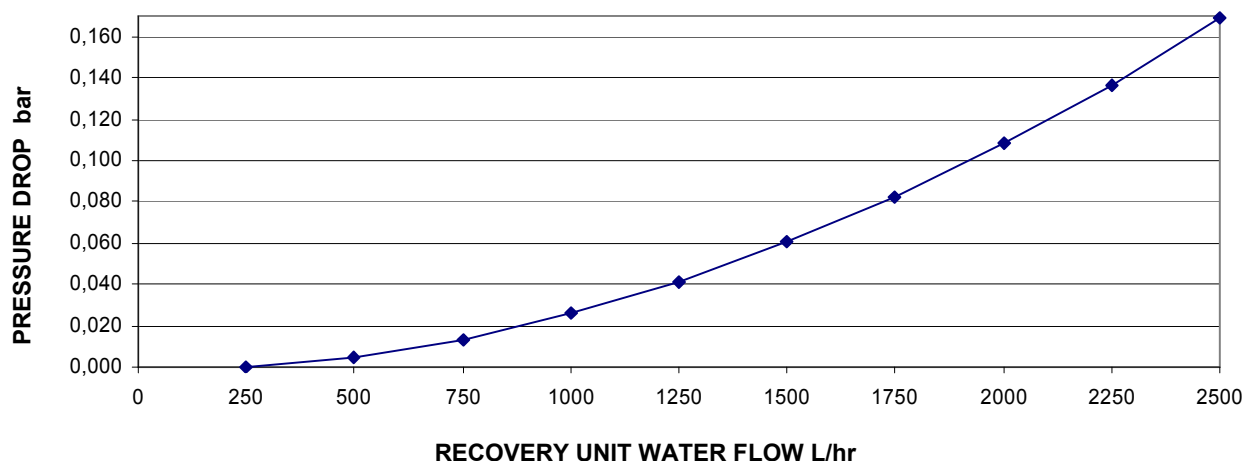

Figure 5 – Heat recovery unit pressure drop ACF60-00 HR, also silenced version
- (11) For deliveries different from the nominal, please refer to Figure 5, page 24
- (12) Height of the silenced version ACF, complete with fan nozzle.